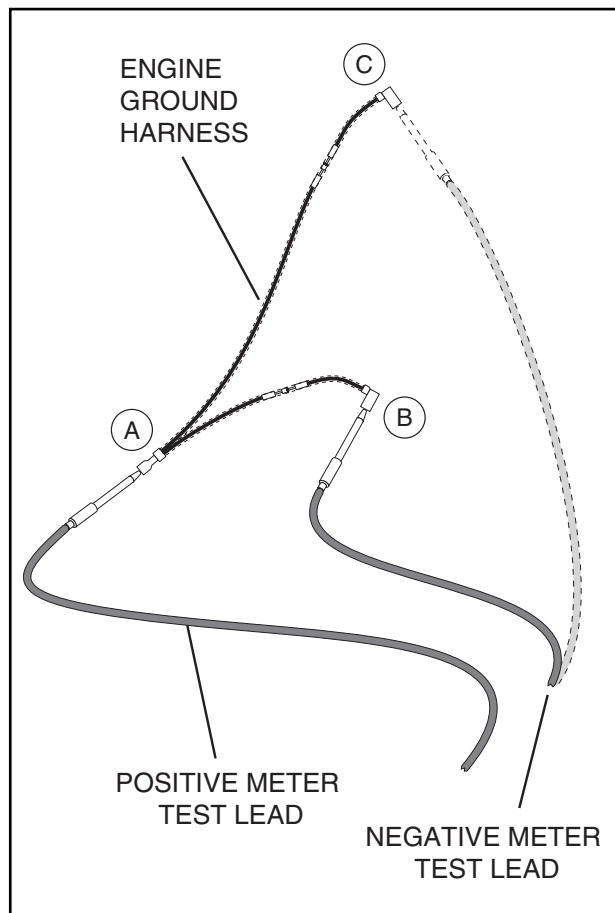

Figure 26. Engine Ground Harness Test Points
11. Connect the positive (+) test lead to Connector "A" (as shown in Figure 26). Connect the negative (-) test lead to Connector "B".
12. Now repeat Step 11 with the negative meter test lead connected to Connector "C" (Figure 26).